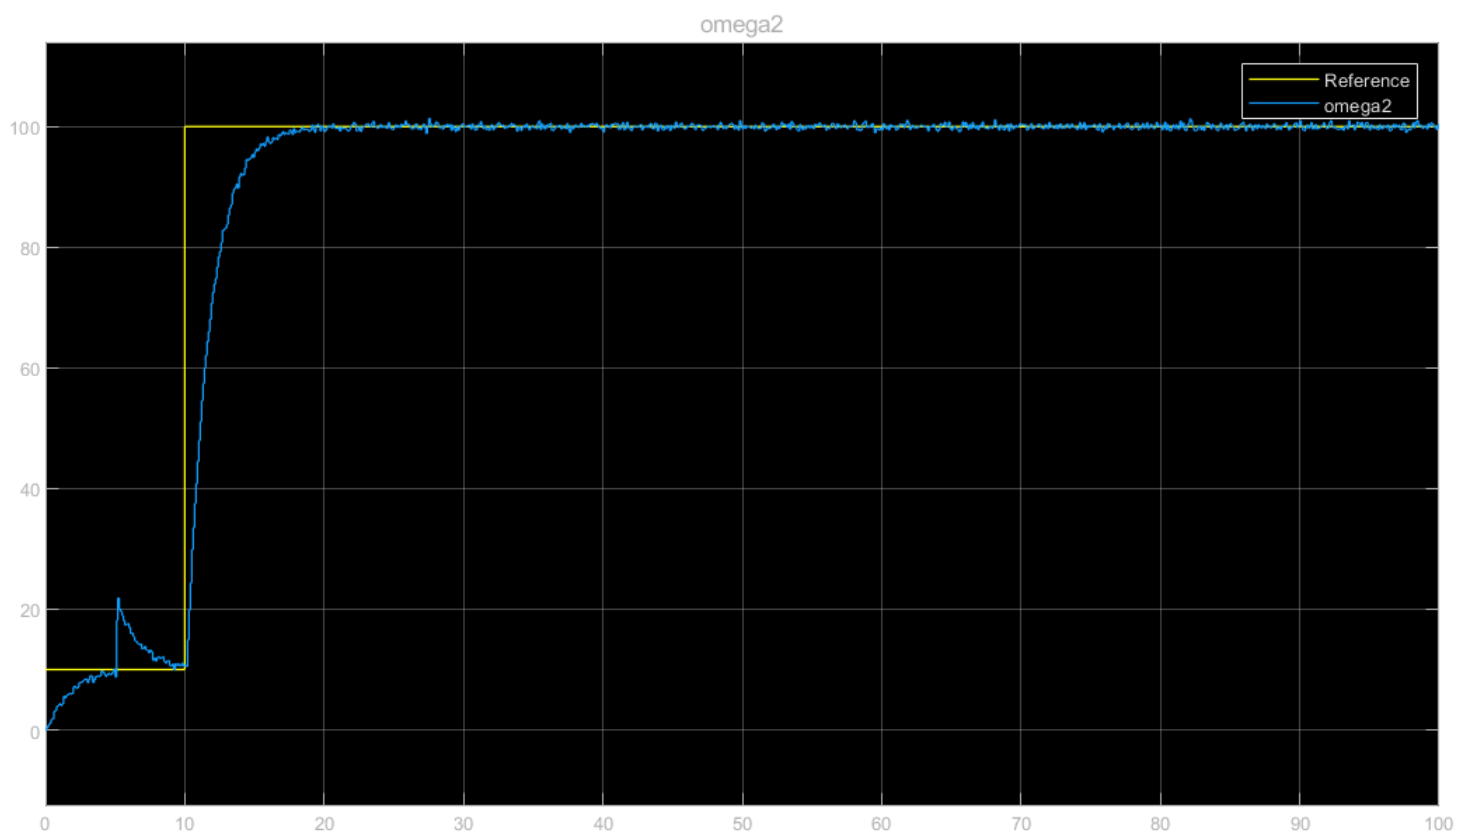

Figure 4: LQG with Integral action
- The reference tracking for ω_2 is shown in figure 4. An input disturbance of 1V is added at 5sec.